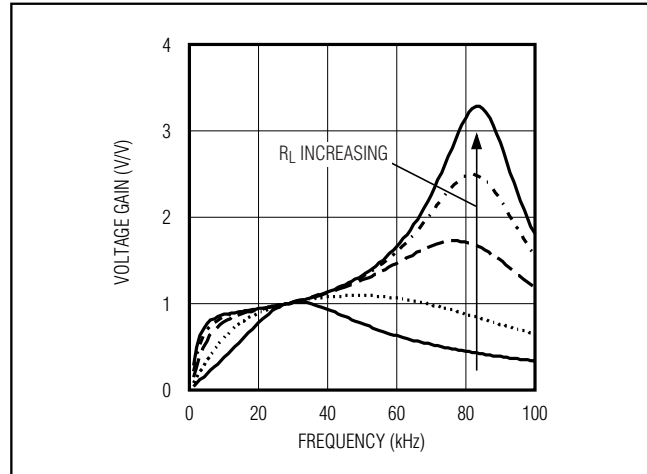

Figure 8. Frequency Response of the Resonant Tank
Figure 8 shows the frequency response of the resonant tank's voltage gain under different load conditions. The primary series capacitor is $1\mu F$, the secondary parallel capacitor is $15pF$, the transformer turns ratio is 1:93, and the secondary leakage inductance is $260mH$. Notice that there are two peaks, f_S and f_P , in the frequency response. The first peak, f_S , is the series resonant peak determined by the secondary leakage inductance (L) and the series capacitor reflected to the secondary (C_s'):